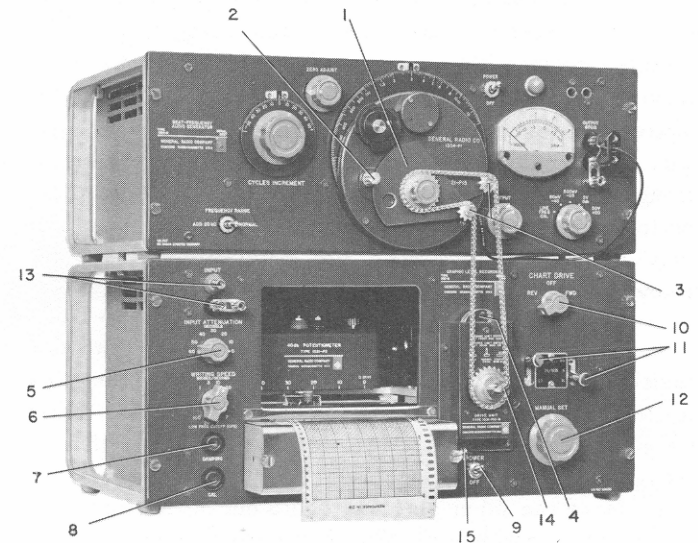
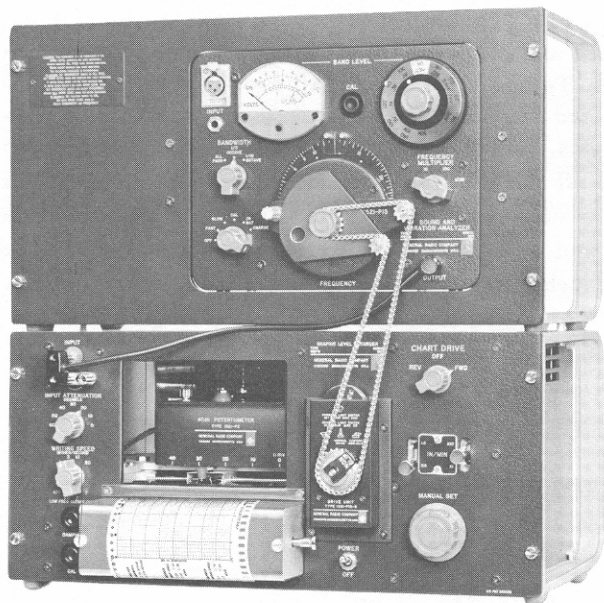

Figure 2.4. Recorder attached to Type 1304-B Beat-Frequency Audio Generator to form the Type 1350-A Generator-Recorder Assembly.
Figure 2.5. Type 1911-A Recording Sound and Vibration Analyzer consisting of the recorder attached to Type 1564-A Sound and Vibration Analyzer.
2.2.3 INSTALLATION OF LINK UNIT ON TYPE 1304-B BEAT-FREQUENCY AUDIO GENERATOR OR TYPE 1564-A SOUND AND VIBRATION ANALYZER. A Link Unit, including sprocket and chain, must be installed on the frequency dial of the driven instrument to couple it properly to the recorder. The Type 1521-P15 Link Unit (Figure 2.4) is designed to couple the recorder to the Type 1304-B Beat - Frequency Audio Generator (for the Type 1350-AR Generator-Recorder Assembly). The Link Unit also couples the recorder to the Type 1564-A Sound and Vibration Analyzer in the Type 1911-A Recording Sound and Vibration Analyzer (Figure 2.5).
- a. Place the Type 1304-B either above or below the recorder in a relay rack or on a bench (see Figure 2.4). The Type 1564-A should always be placed above
the recorder (see Figure 2.5).
d. Slip the chain over the sprockets of the Drive and Link Units. (See Figures 2.4 and 2.5.)
e. Tighten up any slack in the chain by first loosening the screw (2, Figure 2.4) and then swinging the idler sprocket (3) to take up the slack in the chain. Tighten the screw (2).
2.4 STACKING. When two or more bench instruments are to be stacked (see Figures 2.4 and 2.5), use the available hardware set (refer to parts list) and proceed as follows:
b. Place a 15/32-inch spacer (A) over each of the four holes on the top of the base end frames and line up the holes in the bottom of the end frames on the top instrument with the spacers.
c. Insert a No. 10, 1-inch screw (B) through each of the four holes in the bottom of the end frame on the top instrument and see that the screw comes through the top of the bottom end frame.
d. Tighten the assembly by securing a No. 10 locking nut (C) on each of the four mounting screws.